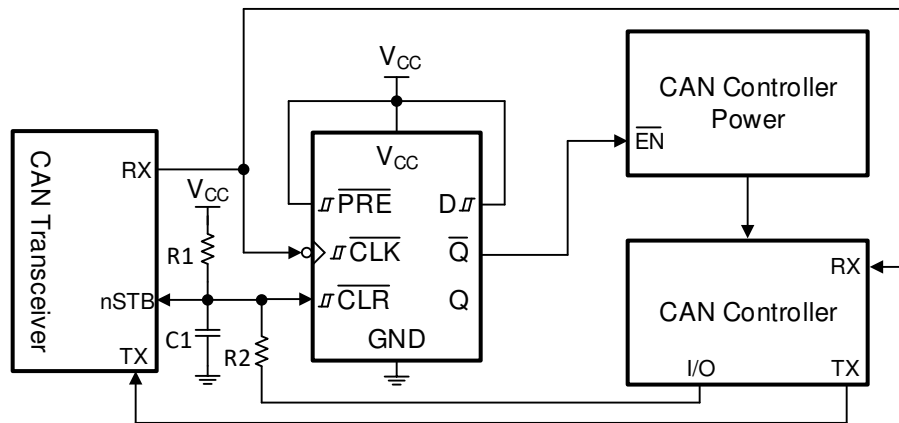

Figure 12. Power Enable Using CAN Wake-up Request
With the SN74HCS72, a power on reset circuit only requires a resistor (R) and capacitor (C) to create a delay. The R and C values create a delay that is approximately  $2.2 \times RC$ . In this application, it is desired to have the output ( $\bar{Q}$ ) in the HIGH state at startup, so R1 and C1 are connected directly to the CLR pin, as shown in Figure 12. A second resistor is needed to limit the current into the CAN controller when it sets the circuit back into standby mode. It is required for the R1 resistor to be at least ten times larger than R2 to avoid a divider circuit ( $R2 \leq 10R1$ ).